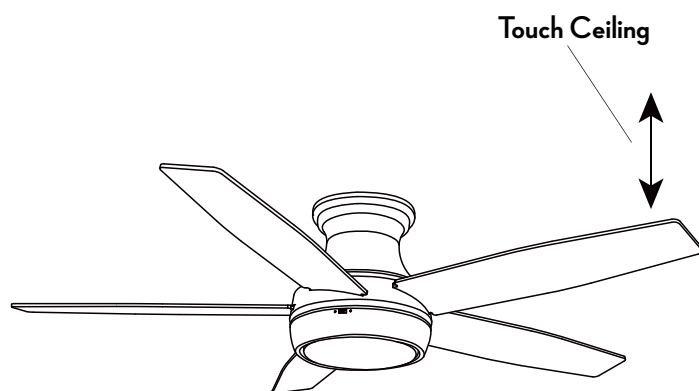

Figure 12
- Most fan wobble problems are caused when blade levels are unequal. Check this level by measuring the distance from the tip of one blade to the ceiling as shown in Figure 12.
Excessive Wobbling.	<ul style="list-style-type: none"><li>□ Make sure that screws which attach fan blade holders to motor are fastened and tightened.</li><li>□ Tighten screws of fan blade to blade holder securely.</li><li>□ Ensure that canopy and mounting bracket are tightened securely to ceiling joist.</li><li>□ Check by selecting a point on the ceiling above the tip of one of the blades. Measure this distance and ensure all blades are even (see Fig. 12).</li></ul>